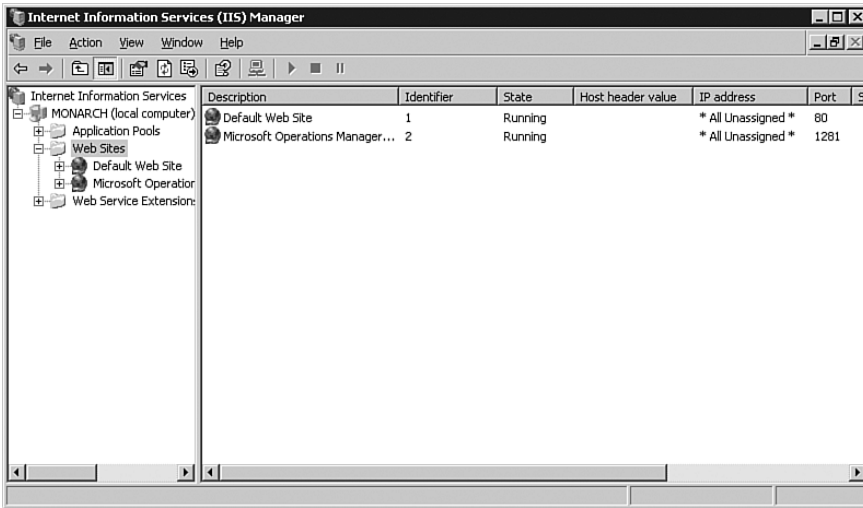

FIGURE 19.4 The IIS Manager showing the MCF Web Application on Port 1281.
3. The Transmission Control Protocol (TCP) port is listed on the Web Site tab. Change the TCP port to the desired port number and click OK to apply the change. Figure 19.4 shows the MCF web application listening on port 1281.